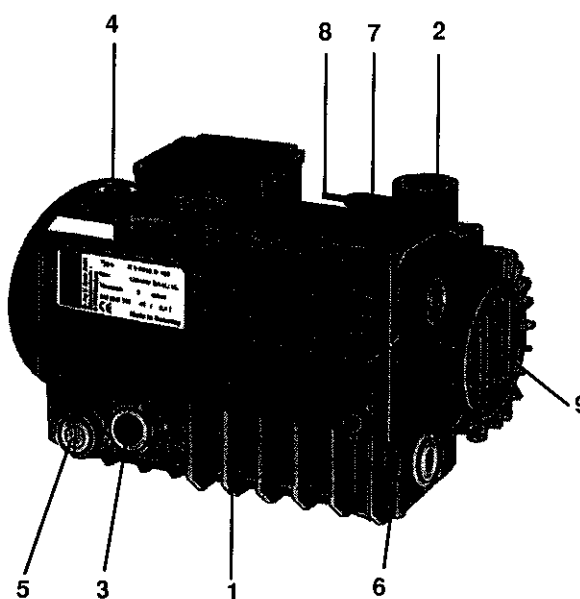

Abb. 7-9
- To clean the screen in the suction flange (Fig. 7-9, 2), the four fastening screws should be unscrewed and the suction flange taken off.